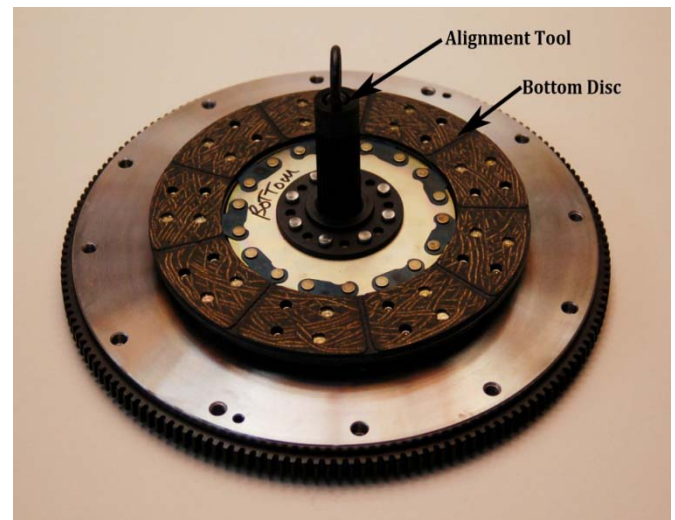

Figure 4
- 5) Install disc labeled “bottom” to the flywheel using the supplied alignment tool. Be sure the disc is installed with the label indicating ‘flywheel side’ is forward toward the flywheel. Figure 4